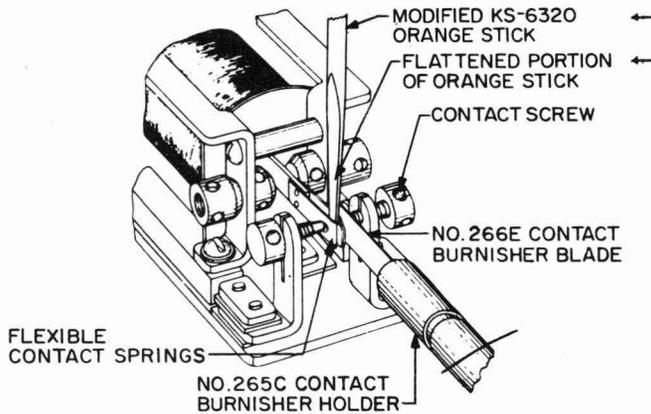
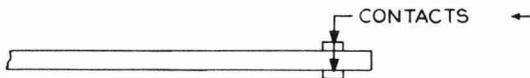
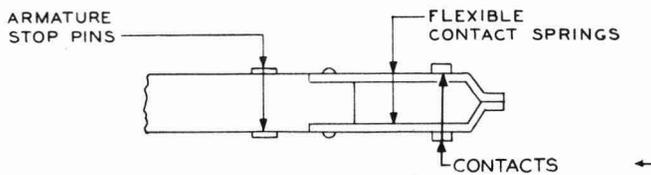

Fig. 16 - Method of Burnishing Contacts on 206-, 209-, 215-, 231-, 239-, 255-, and 280-type Relays
Fig. 17 - Solid Armature on 206- and Similar-type Relays
Fig. 18 - Standard Type of Flexible Contact Springs on 206- and Similar-type Relays
4.12 *206-, 209-, 215-, 231-, 239-, 255-, and 280-type Relays (Except Telegraph Transmission Relays) Equipped With Solid Armature Illustrated by Fig. 17 or Standard Type of Flexible Contact Springs Illustrated by Fig. 18:* Insert the No. 266E blade in the No. 265C contact burnisher holder with the wide end outward. Insert the contact burnisher blade horizontally between the armature and the stationary contact as indicated in Fig. 16. If necessary, back off the contact screws equally with the No. 340 adjusting key far enough to permit the burnisher blade to enter easily between the armature and the contact. If necessary, hold the armature or flexible contact against the contact burnisher with the KS-6320 orange stick (in the case of flexible